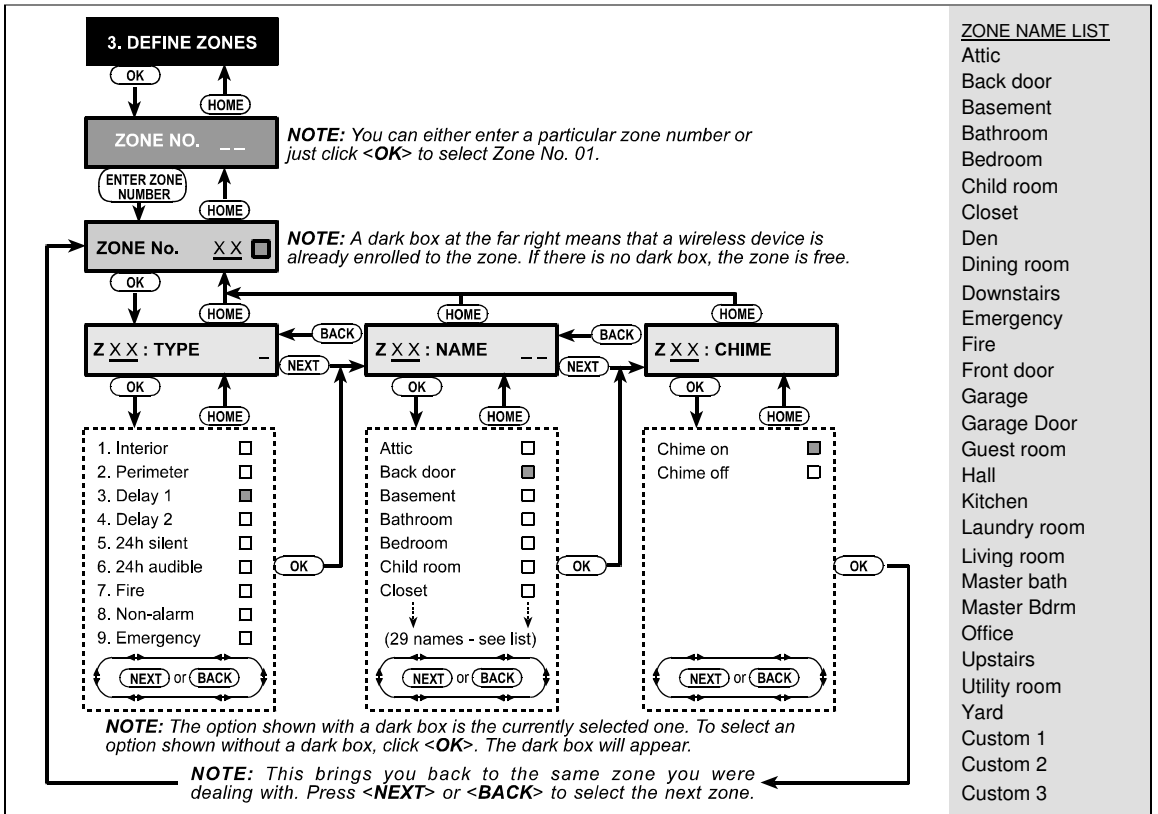

Figure 3. DEFINE ZONES Flow Chart
Should you wish to get an overall view of the entire zone definition process, refer to Figure 3. You may even use the chart as your only guide along the programming process, instead of going through the written step-by-step procedure.
- D. You can now enter the number of a specific zone definition (see list in Figure 3) and click <OK>. If, for example, you enter <5>=><OK>, the display will read:
G. At this point, enter the serial number of the zone name you wish to attach to zone No. 7 from the list of 29 available names (see list in Figure 3).